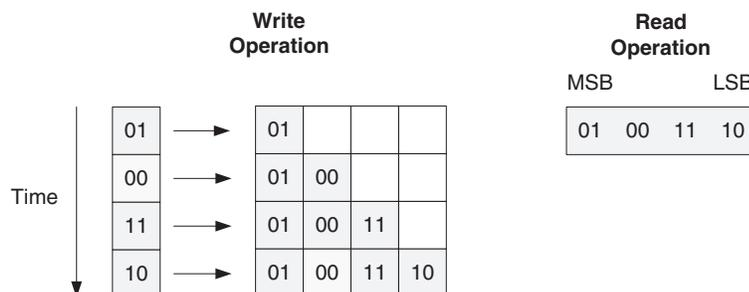
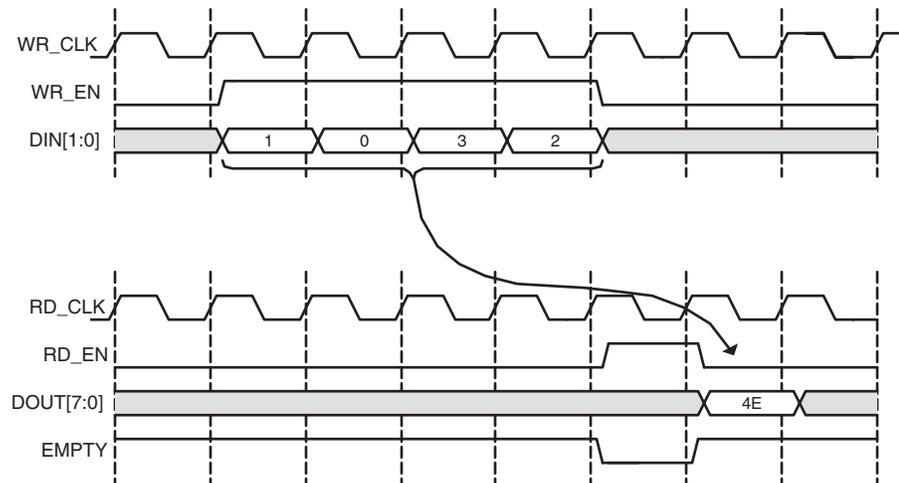

Figure 4-17: 1:4 Aspect Ratio: Data Ordering
Figure 4-18: 1:4 Aspect Ratio: Status Flag Behavior
**Note:** For non-symmetric aspect ratios where the write width is smaller than the read width (1:8, 1:4, 1:2), the most significant bits are read first (refer to Figure 4-17 and Figure 4-18).
Figure 4-17 is an example of a FIFO with a 1:4 aspect ratio (write width = 2, read width = 8). In this figure, four consecutive write operations are performed before a read operation can be performed. The first write operation is "10", followed by "11", "00", and finally "01." The memory is filling up from the right to the left (LSB to MSB). When a read operation is performed, the received data is "01\_00\_11\_10."
Figure 4-18 shows DIN, DOUT and the handshaking signals for a FIFO with a 1:4 aspect ratio. After four words are written into the FIFO, EMPTY is deasserted. Then after a single read operation, EMPTY is asserted again.